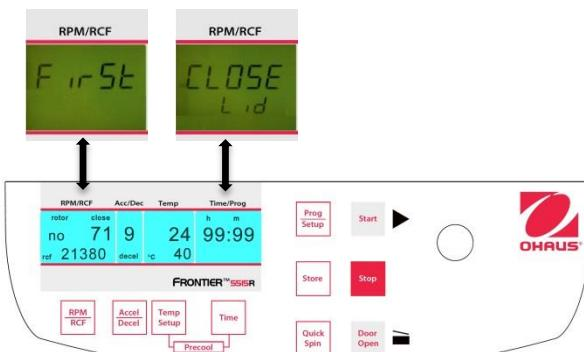
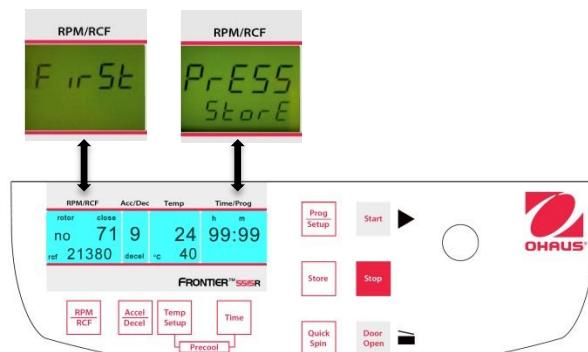

Figure. 23
Figure. 24
Lose the lid of the centrifuge. Now proceed as described previously to set all important run parameters. If the lid isn't closed when storing the program, in the display RPM/RCF (A-1), the words FirSt and CLOSE Lid (See figure 23) flashes alternately. If you want to start the run without storing the program, in the display RPM/RCF (A-1), the words First and PrESS StoreE (See figure 24) flashes alternately.
For adaption of data press the key Store (12) (refer to figures 23 and 24) for approx. 1 second. If the program is stored correctly, the word StorE appears in the display RPM/RCF (A-1). As a result, the word programm (M10) disappears.